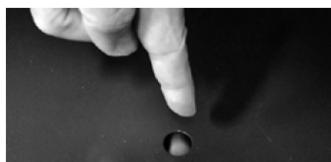

Fig. 8: Bottom plate/bottom display with round opening
Only lift out the bottom plates/bottom displays with the help of the round opening (see → Fig. 8).
- Insert the cleaned bottom plates/bottom displays with the help of the round opening (see → Fig. 8).